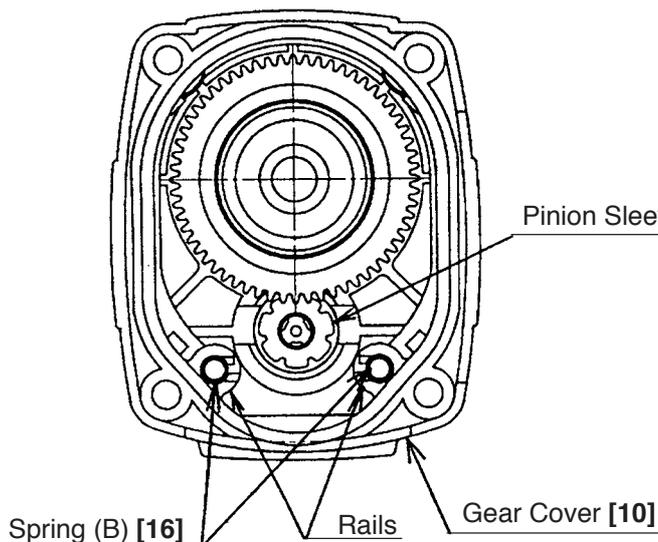

Fig. 13
(1) Disassembly of the striking mechanism section
- Push the Second Hammer [29] in the main body with a drill bit or screwdriver to release the Striker [37] from O-ring (C) [34].
- Remove Springs (B) [16] from the rails in the Gear Cover [10] as shown in Fig. 13.